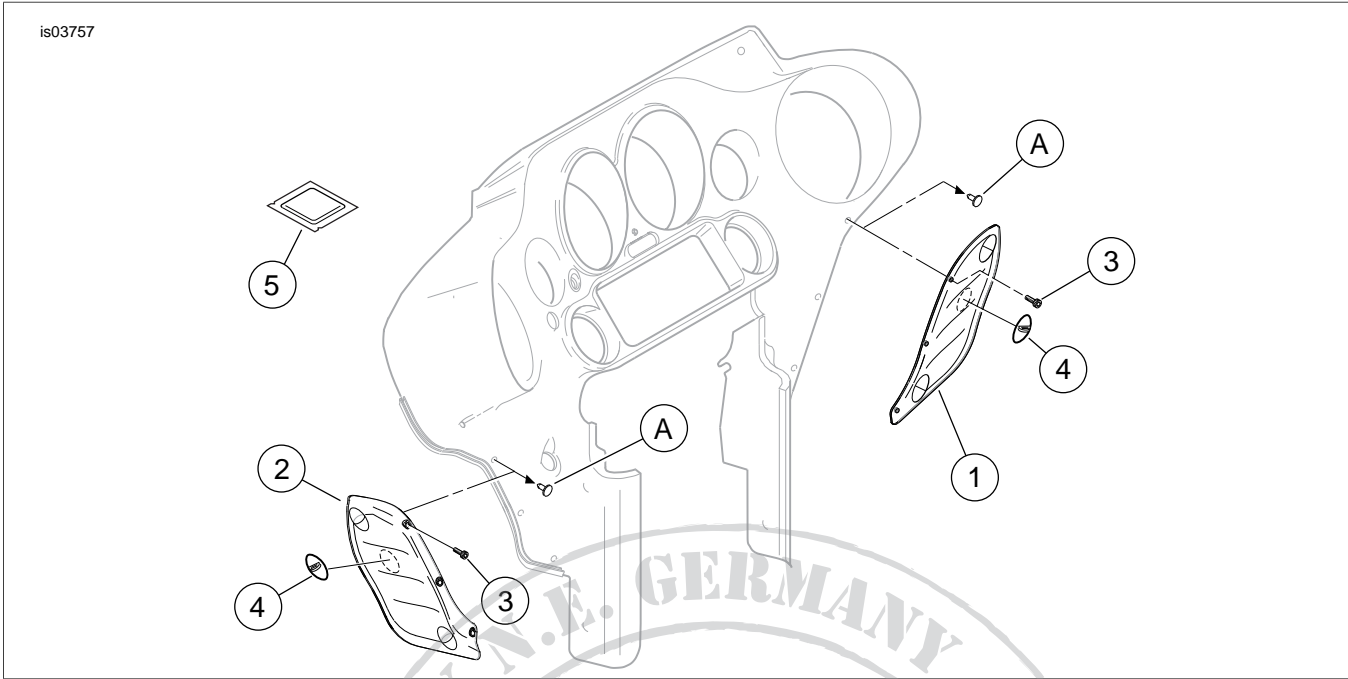

Figure 2. Service Parts, Adjustable Air Deflector Kit
See Figure 2 and Table 1.
1. See Figure 2. Obtain the two air deflectors (1 and 2) and two thumb tabs (4) from the kit. Position one air deflector so the three hinge mounting Phillips screw heads at the bottom of the deflector are facing you.
5. See Figure 2. **Models with NO air deflectors installed:** Remove and discard the six hole plugs (A) from the right and left edges of the inner fairing assembly.